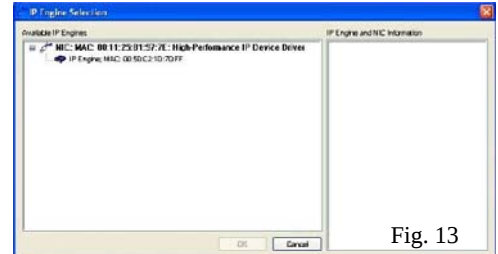

Fig. 13
- Secondly, click “Detect device” and “High Performance IP Driver with MAC address” appears. (Fig. 13) Click “address” and “OK”. The IP addresses appear in the Connection dialog box.